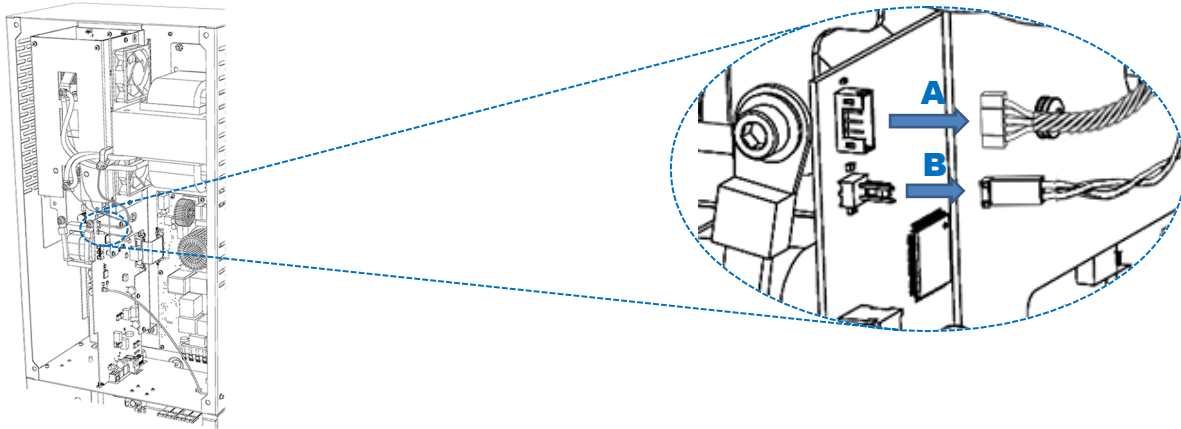

Figure 47 Control Board Connectors
1. Remove the 5-conductor current transducer plug from the control board. See **A** in Figure 47.
2. Remove the 2-pin voltage sense connector. See **B** in Figure 47.
- Replace voltage sense connector **B** and current transducer connector **A**. See Figure 47 if necessary.